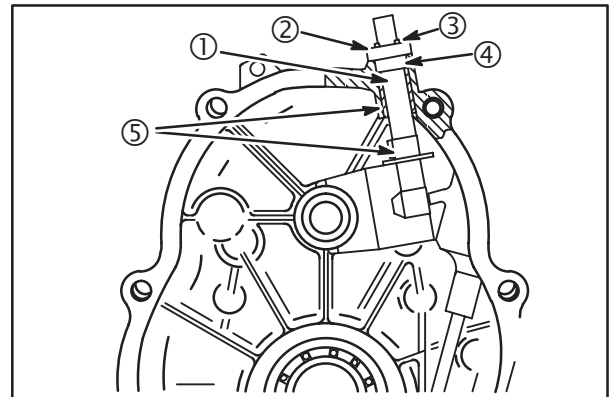

Fig. 8
1. Remove cotter pin (3) and collar (2). Discard cotter pin, Fig. 8.
2. Slide governor shaft (1) out of bushings (5).
3. Remove and discard seal (4).